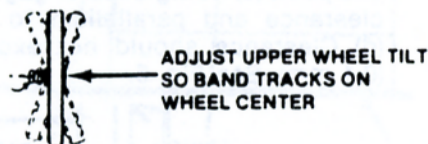

FIG. 8. ADJUSTING UPPER WHEEL TILT.
- (8) Re-install band so its center follows each wheel tire center. Then: (a) Close wheel doors; (b) Use tensioning knob to stress band to maximum reading shown by scale.
- (9) Check to see that band center is following each wheel tire's center. Adjust upper wheel tilt -- maximum 3 inches (75 mm) -- until band is tracking properly. See Fig. 8.